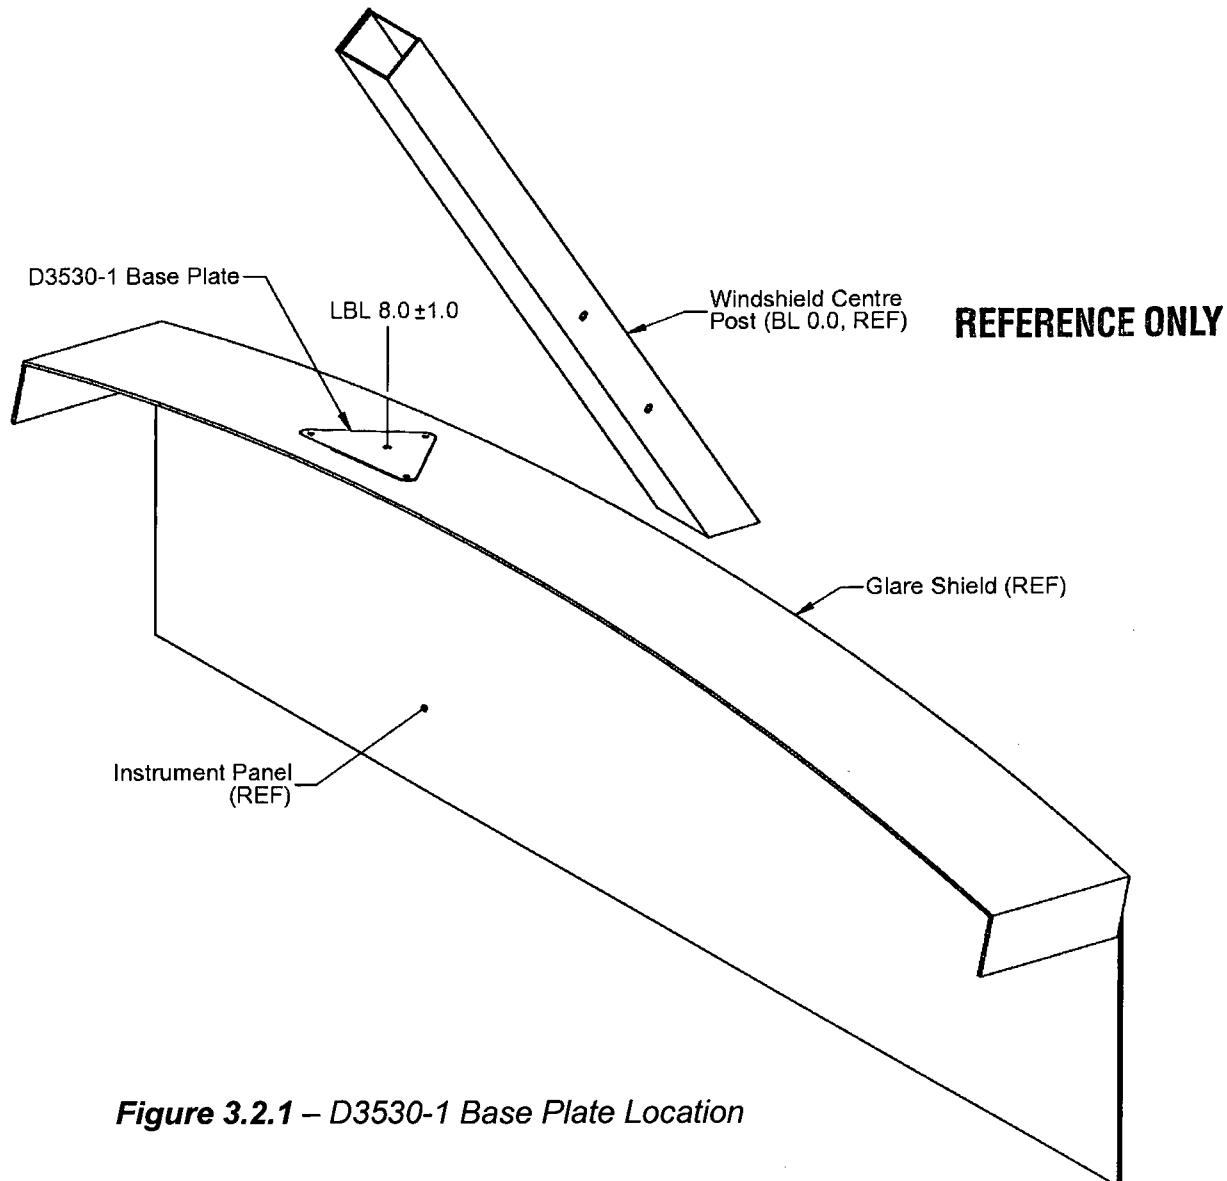

Figure 3.2.1 – D3530-1 Base Plate Location
3.2.1 Locate the D3530-1 Base Plate on top of the glare shield of the helicopter instrument panel as shown in **Figure 3.2.1** so that the centre hole of the D3530-1 Base Plate is at LBL 8.0 +/-1.0. Ensure that the base plate lies flat on the glare shield.